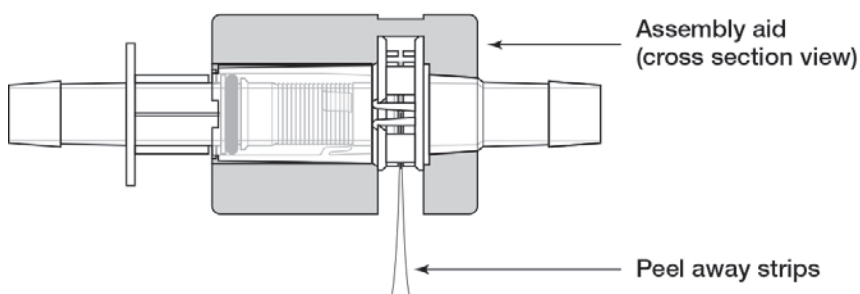

Figure 5.32. Peel-away strips protruding from assembly aid.
5. If you are using the Kleenpak connector assembly aid, place the connector inside the aid so that the peel-away strips protrude through the opening (Figure 5.32). If not, hold the connector firmly on each side, with the peel-away strips pointing away from your hand. The Kleenpak connector should stay securely in the assembly aid when properly installed.